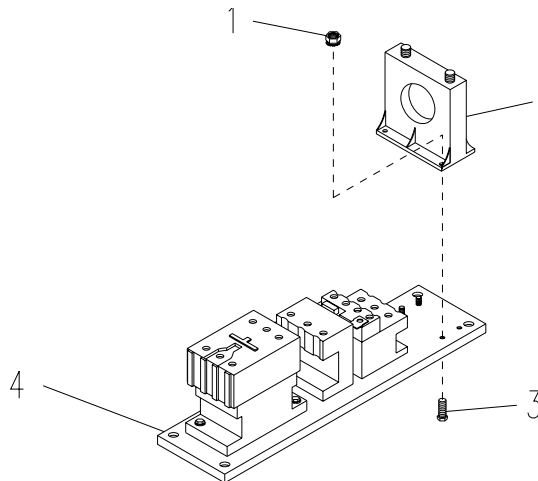

Figure 5-9. Current Transformer
- a. Remove four nuts with captive washers (1, Figure 5-9) and four screws (JTACS and WIN-T), or slotted hex-head bolts (JTACS and WIN-T) (3) and remove current transformer (2) from contacting mounting plate (4).
- b. Install current transformer (2) to contacting mounting plate (4) and secure with four nuts with captive washers (1) and bolts (3).